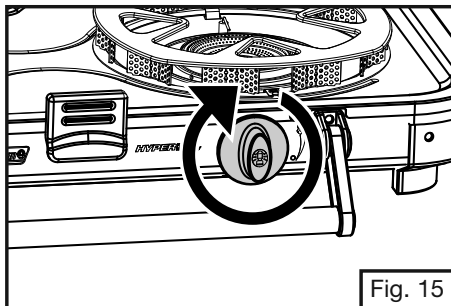

Fig. 15
1. Close the burner valves firmly. (Fig. 15)